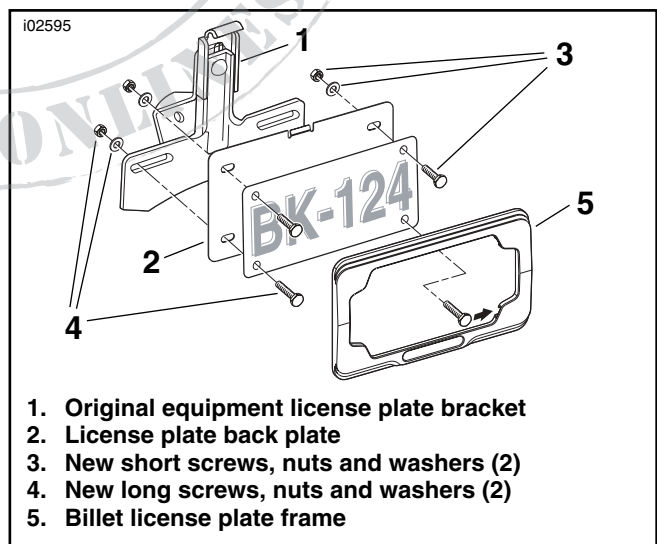

Figure 2. Install License and Frame (Models With 3-Point Mounting Bracket)
5. See Figure 2. Rotate the new license-plate frame to place the nameplate cavity at the top or bottom, as desired (see Figure 1). Insert two long "T"-slot screws (4) from the kit into the lower slots in the frame. Insert the two short "T"-slot screws (3) into the upper slots in the frame.